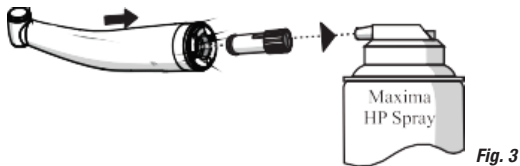

Fig. 3
Handpiece Maintenance (Fig. 3)
4. Insert spray adapter completely into back of handpiece and hold it in place (Fig. 3).